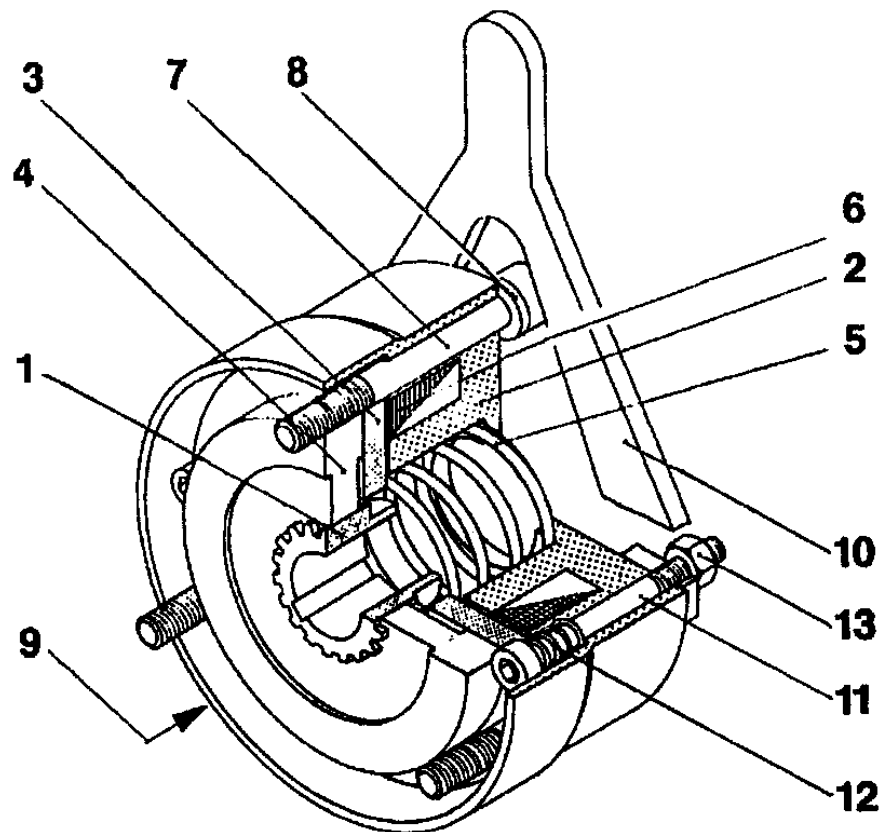

Fig. 1
Brake Installation (Fig. 1)
1. Mount the hub (1) with the shoulder pointing backwards (Fig. 1) onto the shaft, bring it into the correct position and secure it axially (e.g. using a locking ring).
The shoulder screws (Item 9 / Fig. 1) prevent the individual parts from falling apart. They do not affect the brake function and must not be removed during installation.